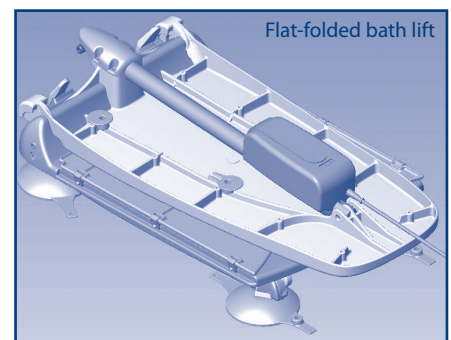

Figure15
- x) The bath lift may be stored with the backrest folded flat onto the seat unit (see fig 15). The backrest will not be locked to the seat in this position and care should be taken whilst handling.